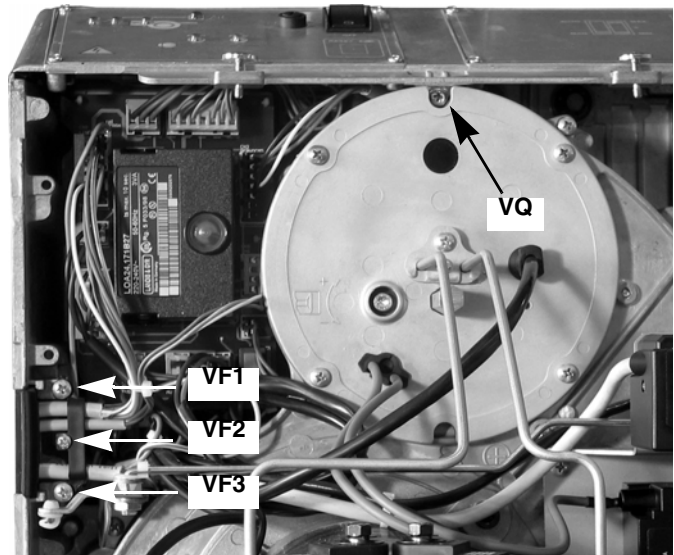

Fig. 37
- 1 Remove the VQ screw that fastens the control panel to the burner head support (Fig. 37).
- 2 Remove the VF1 and VF3 screws from the rubber cable gland; the cables will remain in place because they are locked by the retainer fastened by the VF2 screw (Fig. 37).